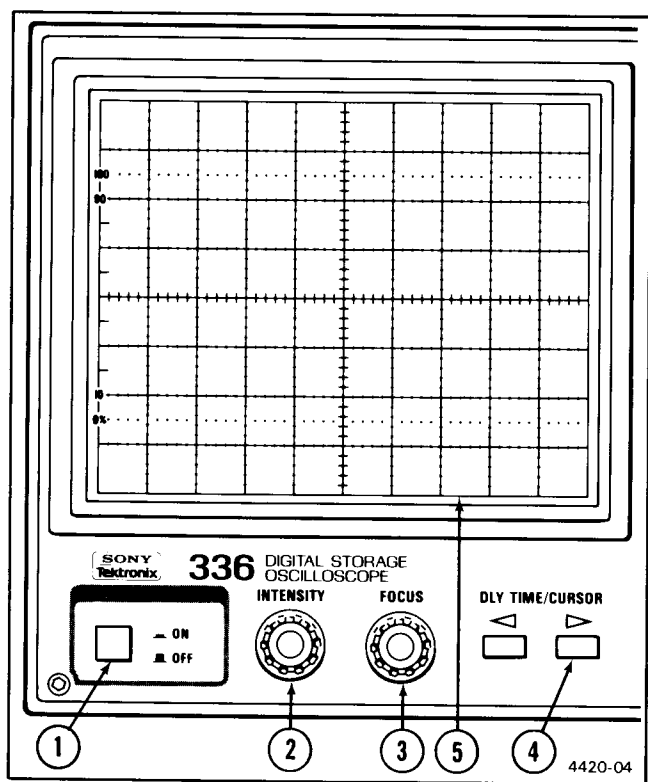

Figure 2-2. Power, CRT, and DLY TIME/CURSORS controls.
Refer to Figure 2-2 for the location of items 1 through 5.
① **POWER Switch**—Turns the instrument power on and off. Push in once to apply power to the instrument; push in again to release the switch and remove power from the instrument. When power is applied a power-up routine automatically runs for approximately five seconds or less. At the end of that time, if no faults are located, the instrument enters the normal operating mode. Instruments with the battery backup that is included with Option 01, will power-up in the same operating mode present at power-down (excluding diagnostics). The standard instrument, will power-up with the following default settings: